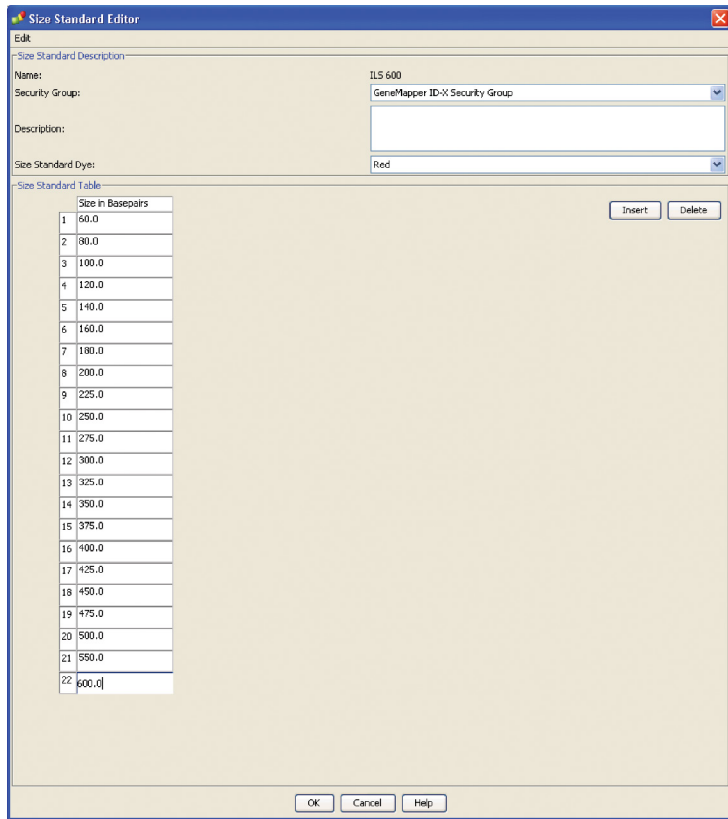

Figure 11. The GeneMapper® ID-X Size Standard Editor.
4. The 'Size Standard Editor' box will open (Figure 11). Enter a detailed name, such as "ILS 600".